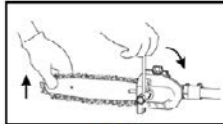

Fig. 18
5. Raise the bar end and securely tighten the chain bar clamp nut with the box wrench. Fig. 18
6. Install the side case (2) onto the guide bar clamp bolt firmly.